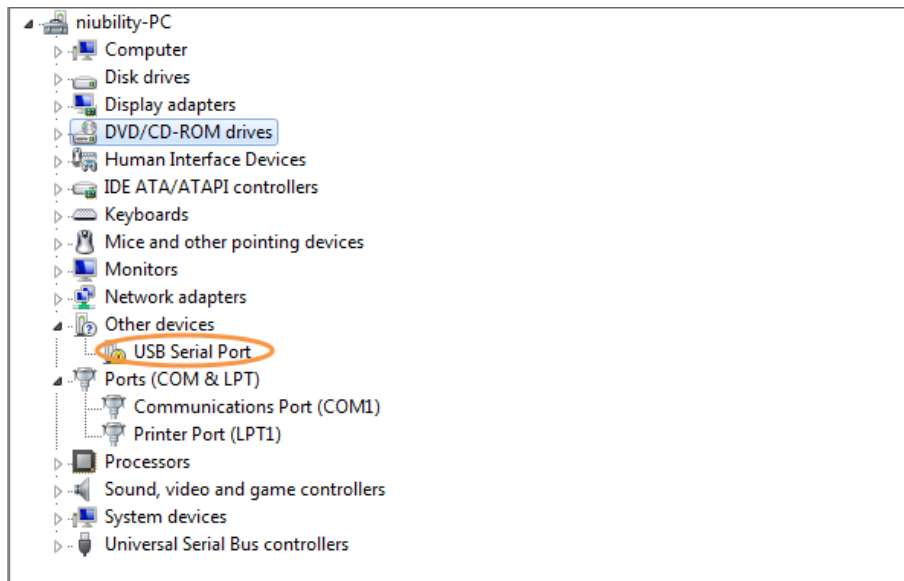

Figure 6-8 Unrecognized USB Serial Port on PC
- Power on the board, if you find an unrecognized USB Serial Port in Device Manager as shown in **Figure 6-8**. You should install the UART to USB driver before you run the demonstration.